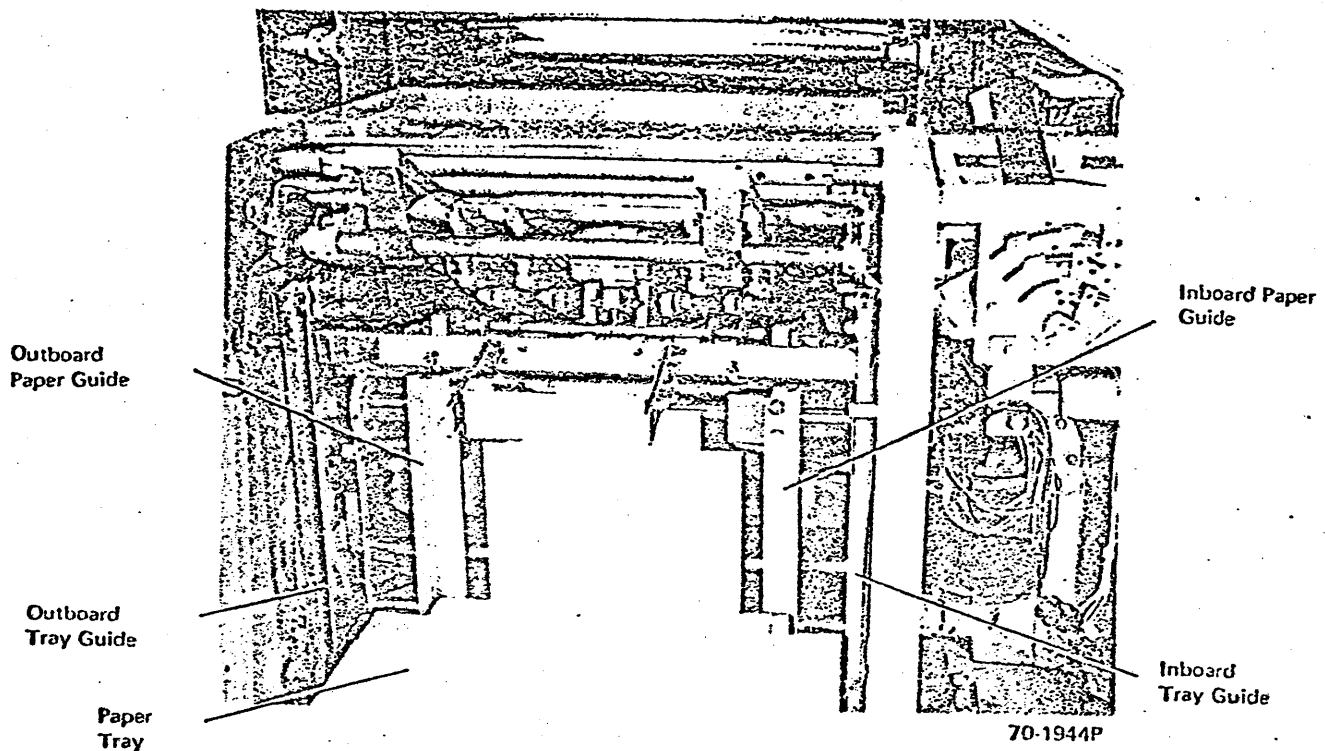

Fig. 3-32D. Paper Feeder, Right Side View
9. Reposition paper guide. Ensure that guide is in proper position (Fig. 3-32D) and kept snug against the mounting slide. Install guide mounting screws.